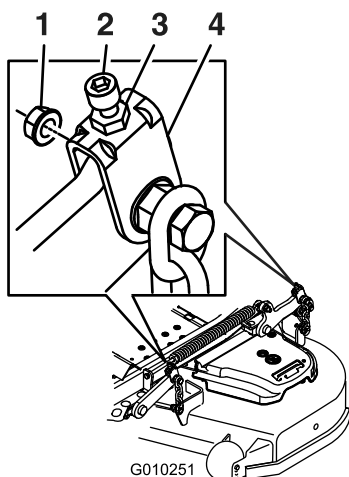

Figure 90
10. Fine-tune the adjustment nut on the front deck lift assembly by turning it (Figure 90).
16. Fine tune the screw adjuster by turning it to get 8.3 mm (3-1/4 inches) height (Figure 90).